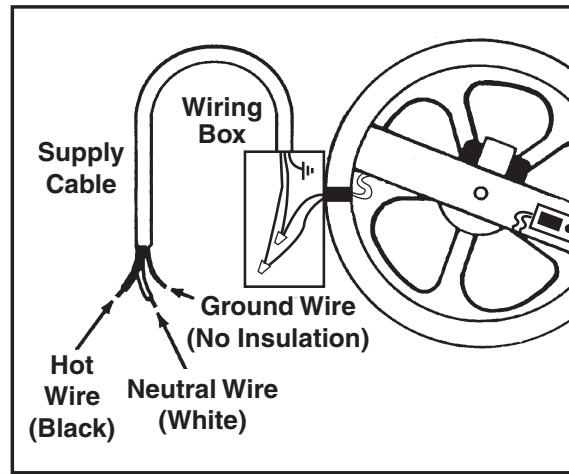

Figure 6. Hot, Neutral, and Ground Wire Connections
- b. Connect "HOT" wire to BLACK lead and "NEUTRAL" wire to WHITE lead. Secure connections with suitable wire nuts (See Figure 6) on page 5.